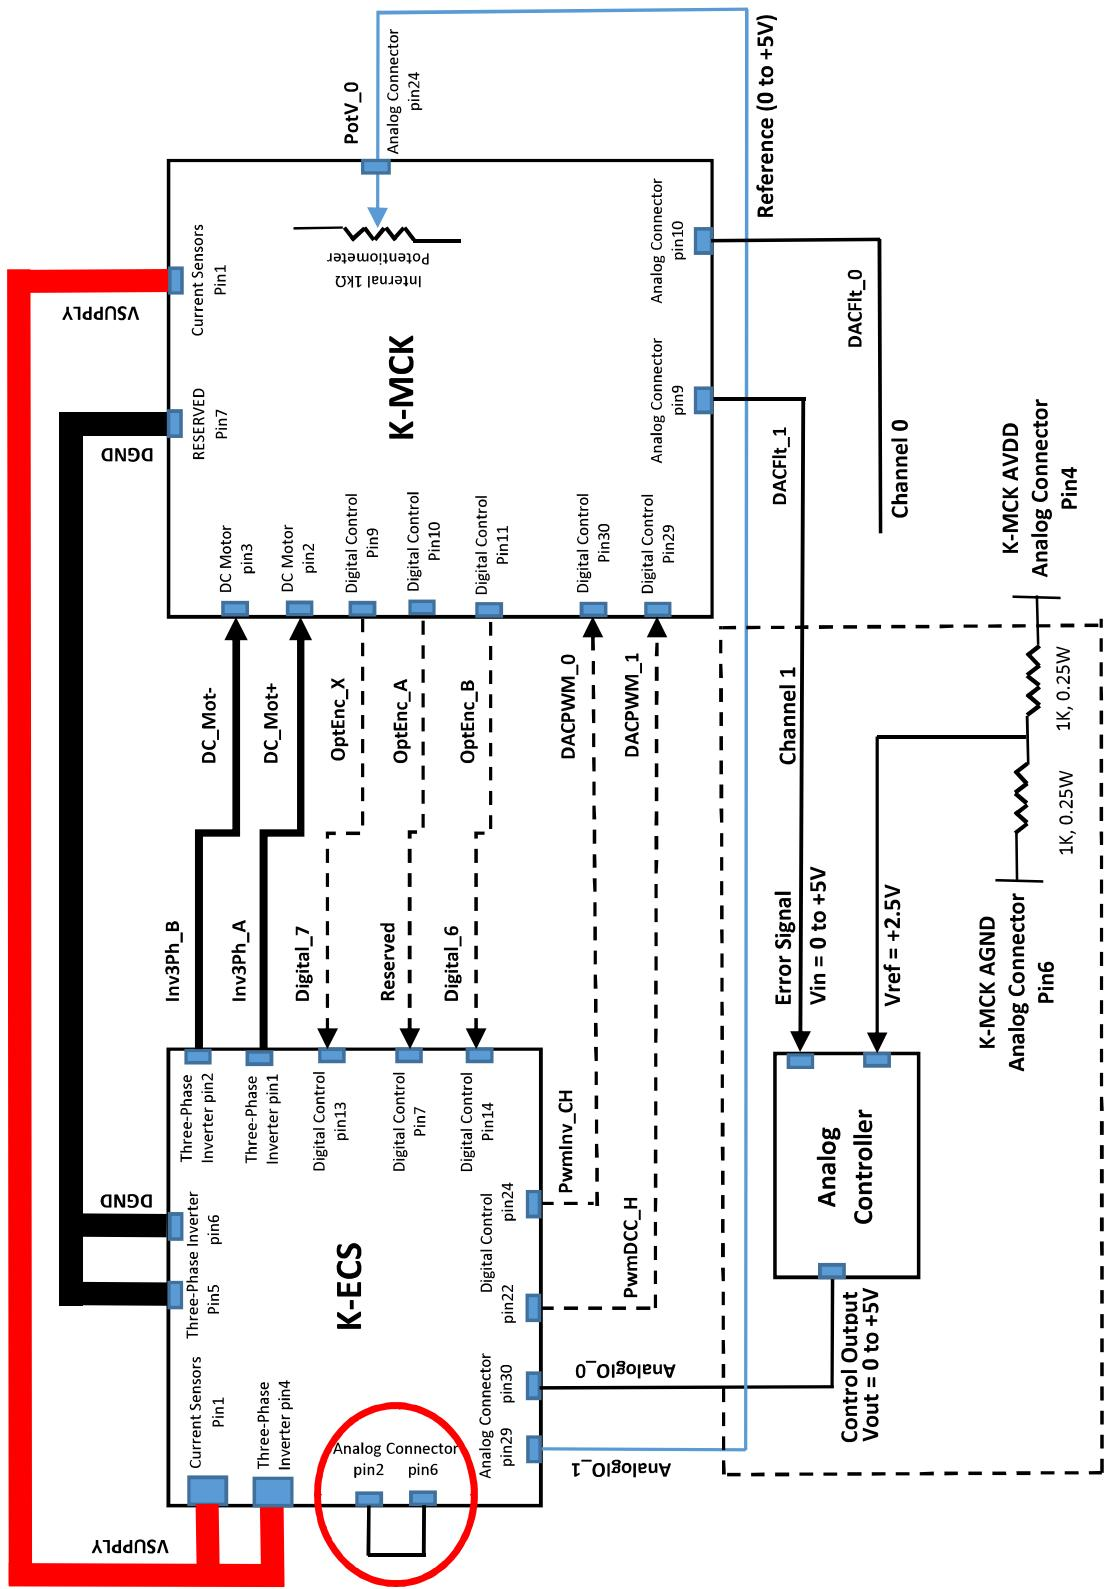
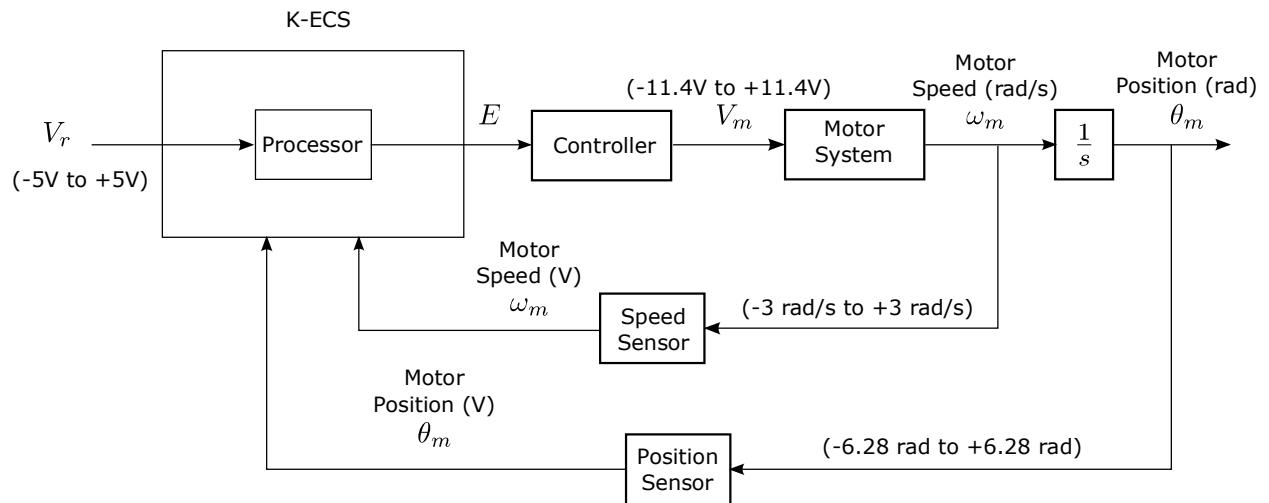
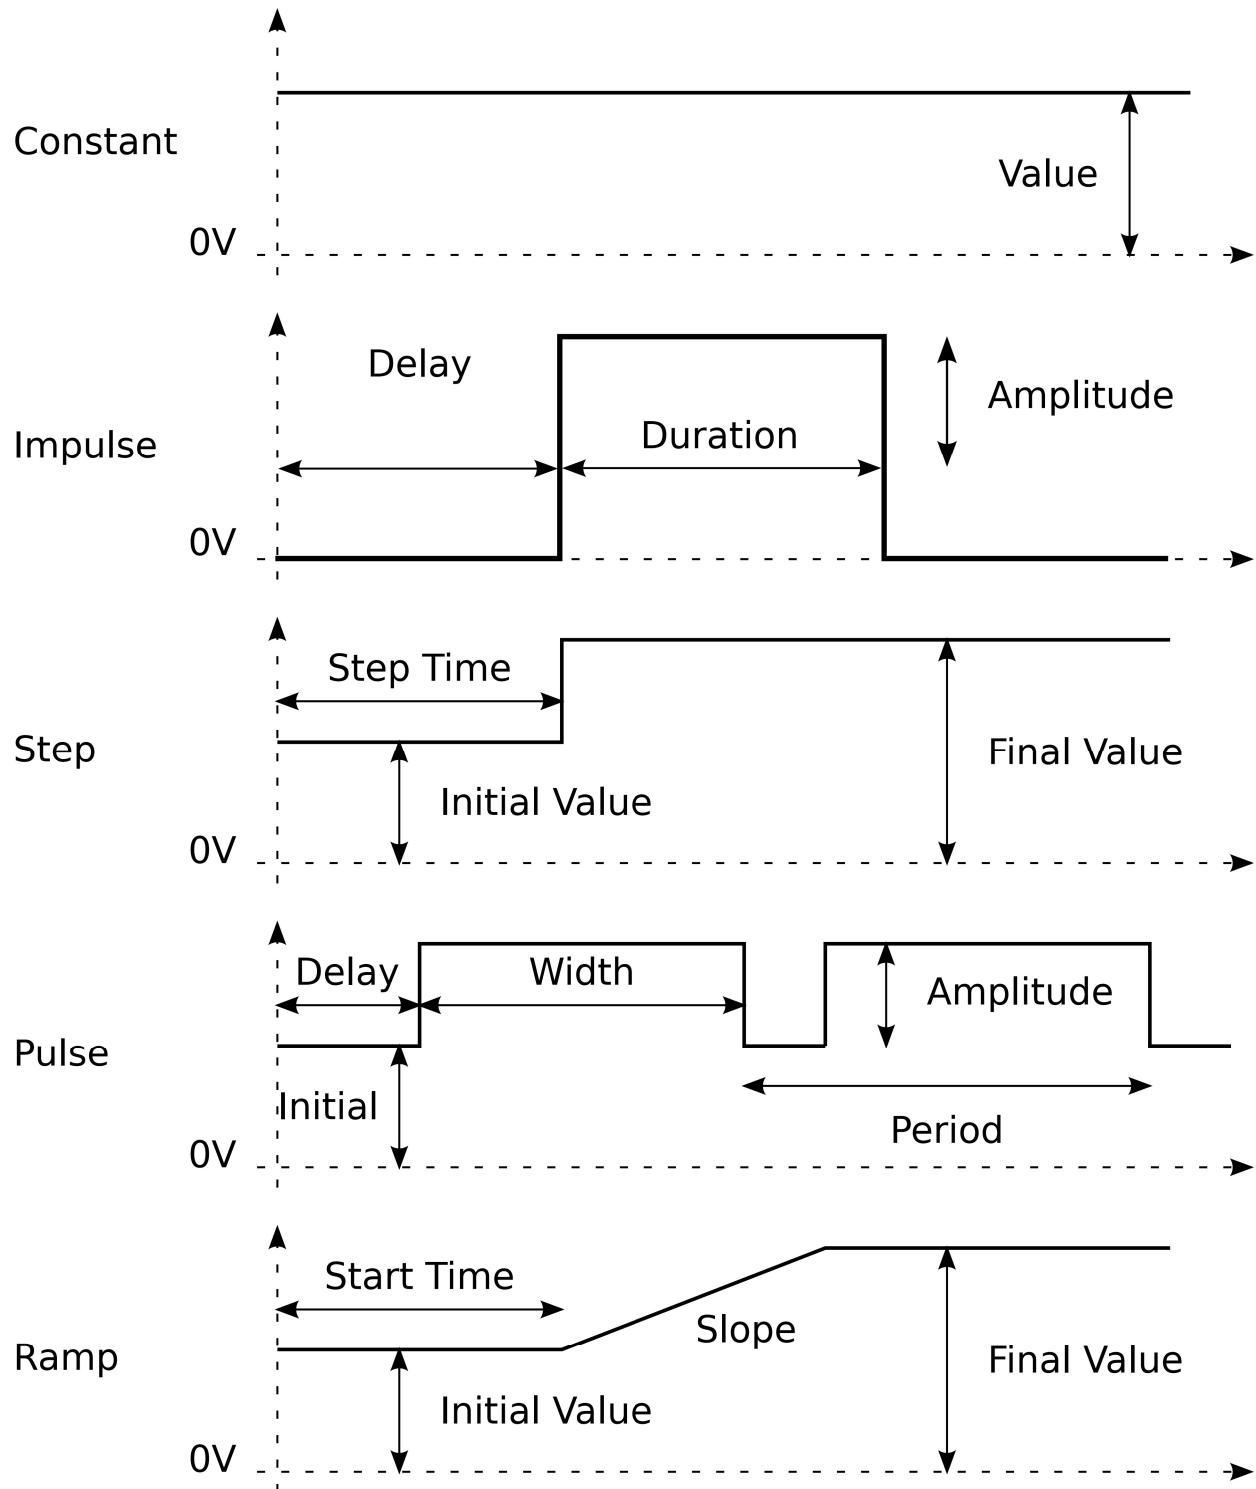
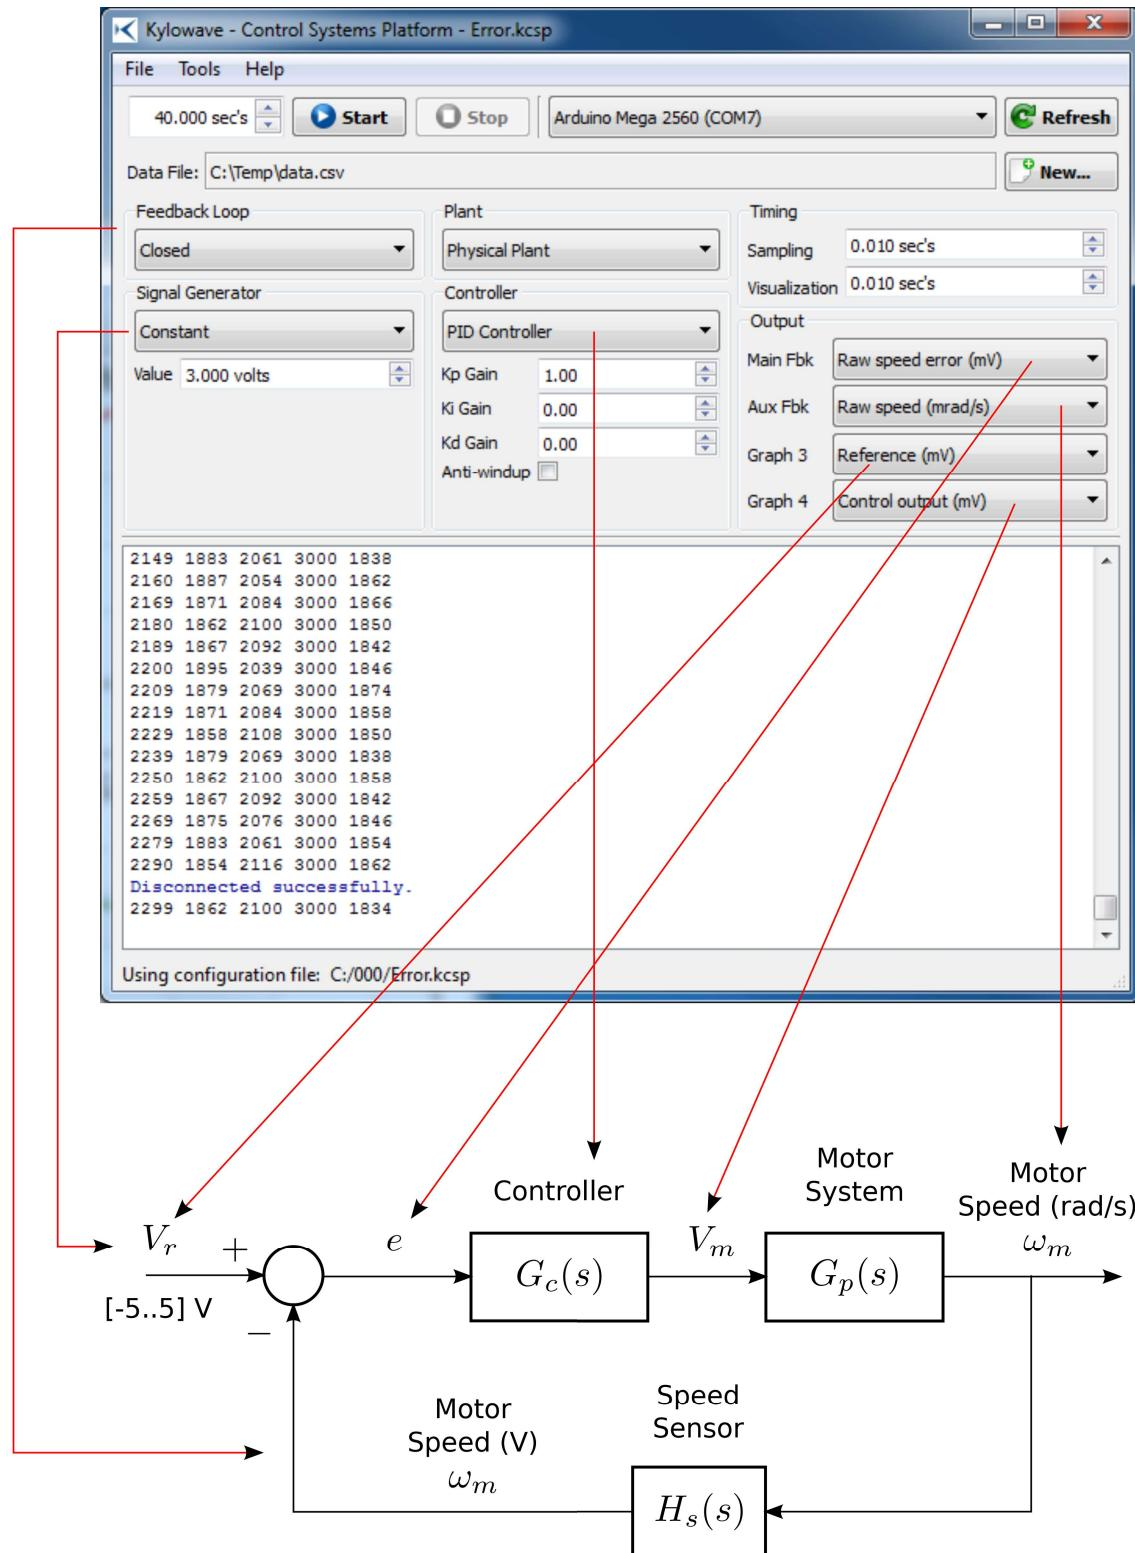

Figure I-1.2: Interfacing the motor kit with the K-ECS board (courtesy of Kylovave Inc.)
Figure I-1.3: Overall system's high-level block diagram
Figure I-2.2: Signals that can automatically be generated in software
Figure I-2.4: Relationship between the system signals and the K-CSP settings
Connecting both kits as shown in Fig. I-1.2 implements the control system depicted in Figs. I-1.3 and I-1.4. To save time, most of these connections are already made for you through a bundle of 3 components:
I-1.2.2 Understanding Figure I-1.2
The motor system is equipped with a digital encoder to measure the speed and position of the motor (Fig. I-1.3). The position sensor is a relative position sensor as it measures the motor position relative to its starting point. In other words, it takes the starting point as the zero position.
8. Selects whether to run the motor system in an open or closed-loop mode (see Fig. I-2.4).
9. Selects the type and source of input to the system (V_r in Fig. I-1.3 and Fig. I-2.4). The user can choose to excite the system with an external signal (from an external device such as a signal generator) or with one of several automatically generated signals which are described in Fig. I-2.2.
Main Fbk: This signal is always displayed as the top left graph. It can be any of the system's signals in the case of open-loop mode. However, in the case of closed-loop system, it has to be chosen as the actuation error, as shown in Fig. I-2.4. In other words, in closed-loop mode, this is always the signal passed to the input of the controller, if one is used, or to the input of the motor, otherwise.
Fig. I-2.4 illustrates the relationship between the system's signals and the K-CSP settings.
Reference: the system's input (V_r in Fig. I-1.3 and Fig. I-2.4).
Control output: the input signal to the motor (V_m in Fig. I-1.3 and Fig. I-2.4).